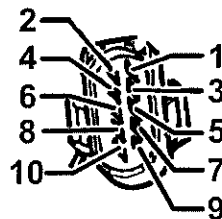

Fig 30 10-pin injection pump connector - plug
73.5 Using a multi-meter measure resistance between contacts 5 and 6 of the connector (see Fig 30).